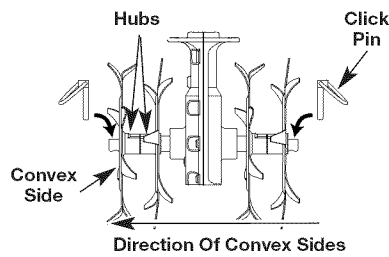

Fig. 12
2. Remove the click pin from each end of the tine shaft. Slide the tines off of the shaft (Fig. 12).
4. Slide on the new tines with the hubs facing each other (Fig. 12).
NOTE: Each tine has a convex side. Make sure that all of the convex sides are facing as shown in Figure 12.